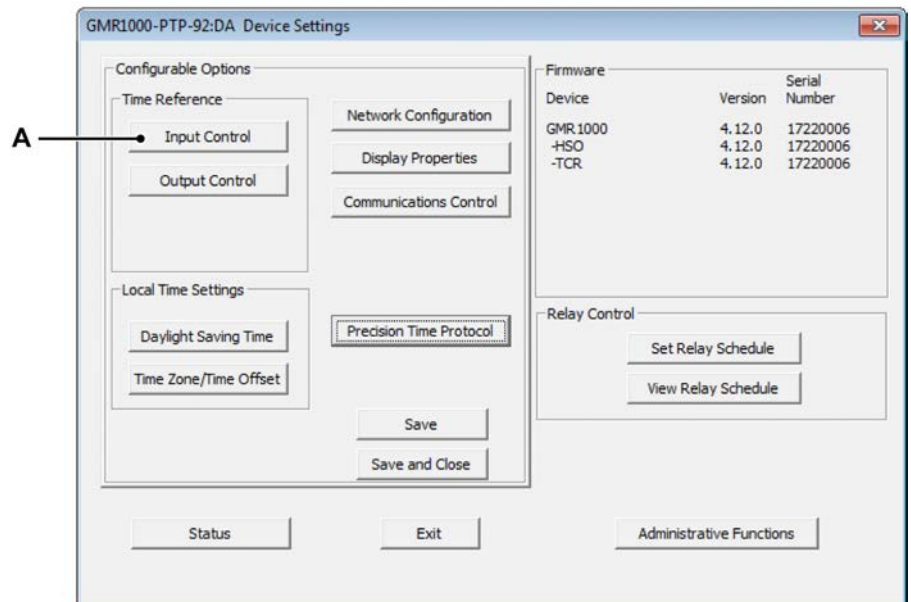

Figure C.20: GMR1000 PTP Device settings
- 2 Expand the tree in the **Device Configuration Utility** until the specific device is found, which is part of the GMR1000 Master reference -> GMR1000 PTP Server family. Once found, click on the device, this will open the device settings window (see Figure C.20).